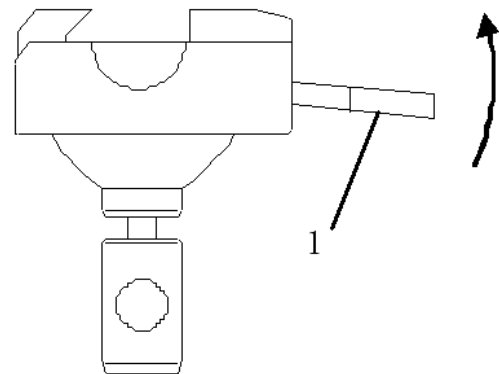

Fig 25
- To insert or remove cassettes, press the lever, Fig 25 (1) upwards.
When inserting the universal cassette clamp, please note that the lever, Fig 25 (1) is always in parallel alignment with the movement direction of the knife sledge. If the clamp is inserted diagonally in relation to the cutting direction, the feed drive might block